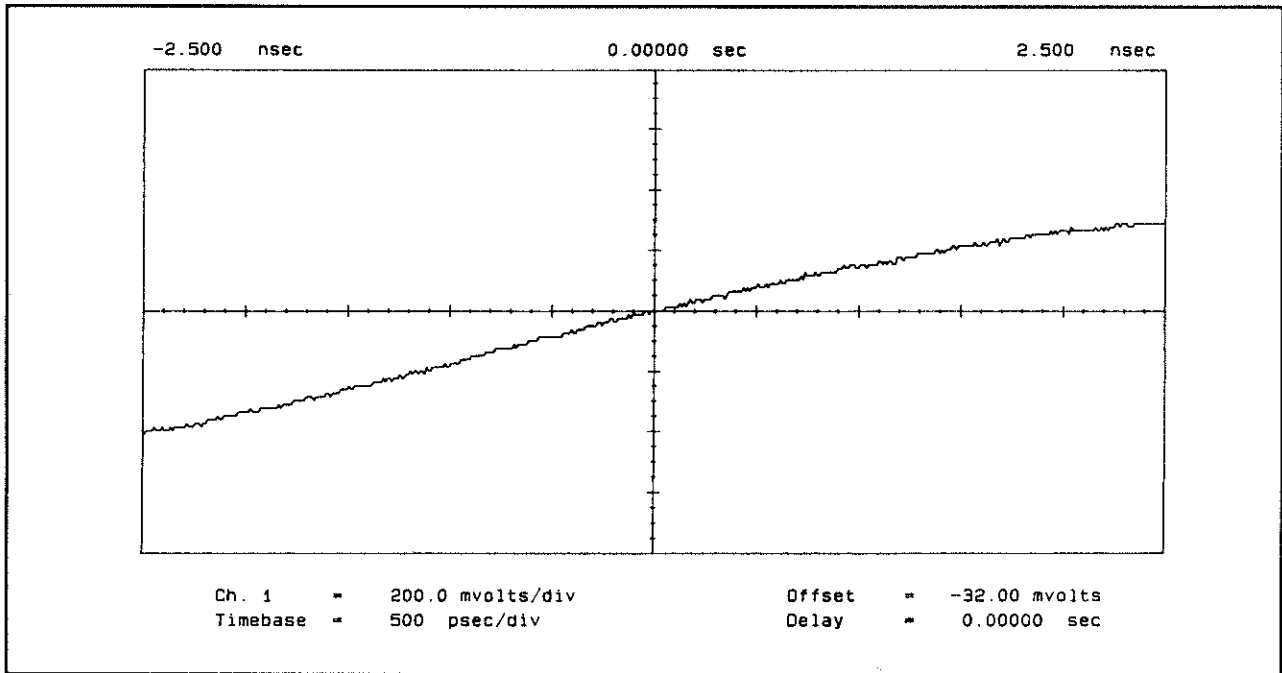

Figure 3-5. Channel 1 Signal Positioning on 54100A CRT Display
- O. Rotate the 54100A RPG (rotary knob) until rising edge of channel 1 input signal crosses the X-axis at the grid origin. See *Figure 3-5*.